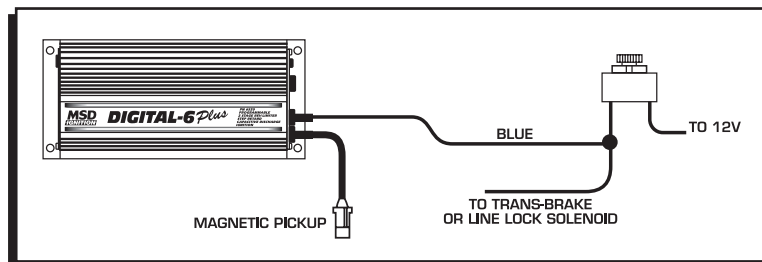

Figure 5 Wiring the 2-Step Rev Limit.
**2-Step Limit:** This rpm limit is activated when 12 volts are applied to the Blue wire. When activated, this limit overrides the Max Limit. This limit is adjustable from 2,000 to 9,900 and will default to 2,000 rpm if the dials are set to an rpm below this range. An example of wiring the 2-Step Limit so it is activated with the line-lock is shown in Figure 5.